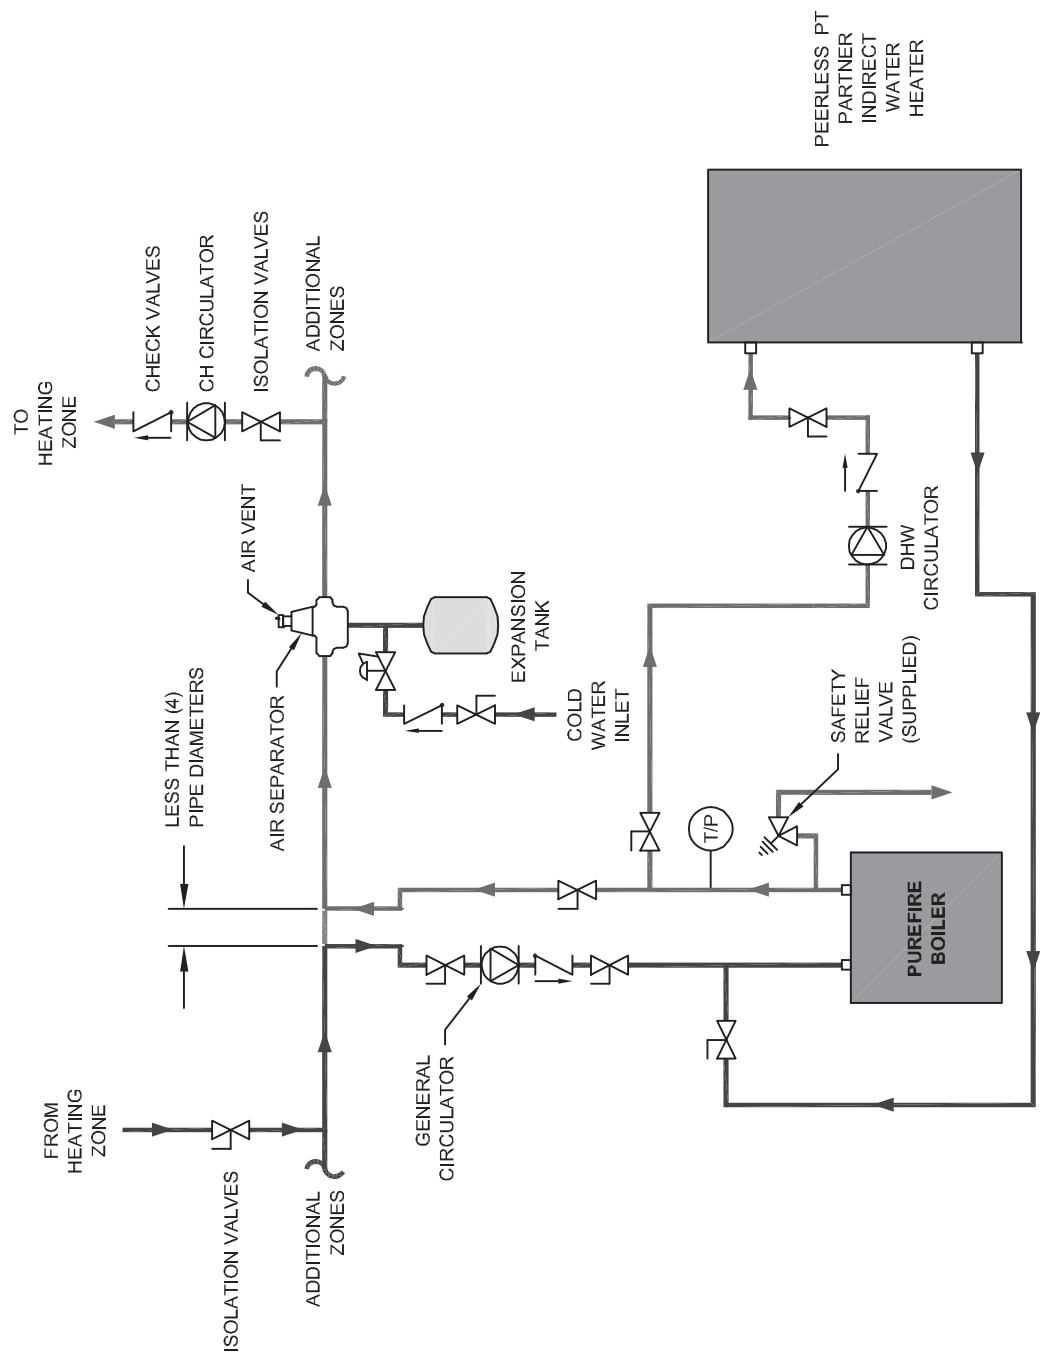

Figure 4.6: Alternate Piping – One Boiler, Primary/Secondary with a Peerless® Partner® (Zone Circulators).
2. For a single boiler with one heating zone and one DHW zone which utilizes an indirect water heater like the Peerless® Partner®, pipe the boiler as shown in Figure 4.6. In systems like this, the DHW circulator must be sized to provide the minimum flow rate through the boiler.